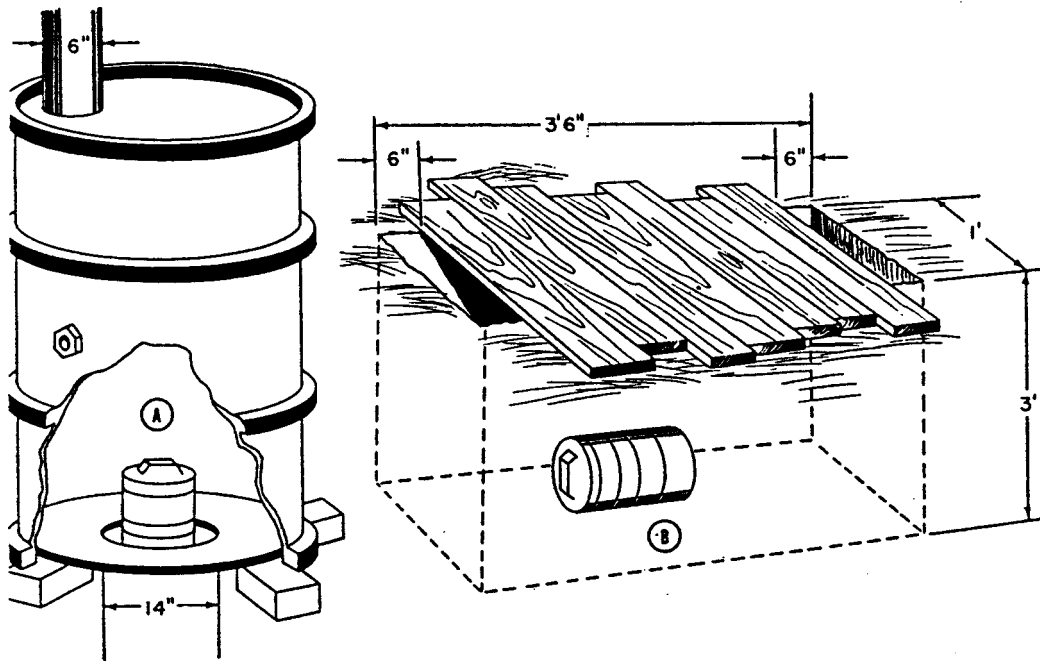

Figure 3. Methods of concealing glare from burning smoke pots.
must permit the smoke to escape freely while concealing the glare given off by the pot. The burning pot can be placed under a 55-gallon drum (A, fig. 3), in a covered trench (B, fig. 3), or the glare can be concealed by other field expedients. Neither the 55-gallon drum nor the trench will completely screen the light from the burning pots. Further, when a burning smoke pot is enclosed in a shield, slightly less smoke is emitted than from an unshielded pot; hence compensation must be made for the reduction in smoke by the use of additional smoke pots.
a. 55-Gallon Drum Method (A, Fig. 3). Cut a 14-inch-diameter hole in the center of one head of the drum and a 6-inch-diameter off-center hole in the other head. Place drum on blocks over smoke pot.
b. Covered Trench Method (B, Fig. 3). Dig a trench, 3½ feet long, 1 foot wide, and 3 feet deep. Place smoke pot on its side in the trench and cover trench with available materials, such as wood from packing boxes. Leave two 6-inch-wide openings for emission of the smoke.